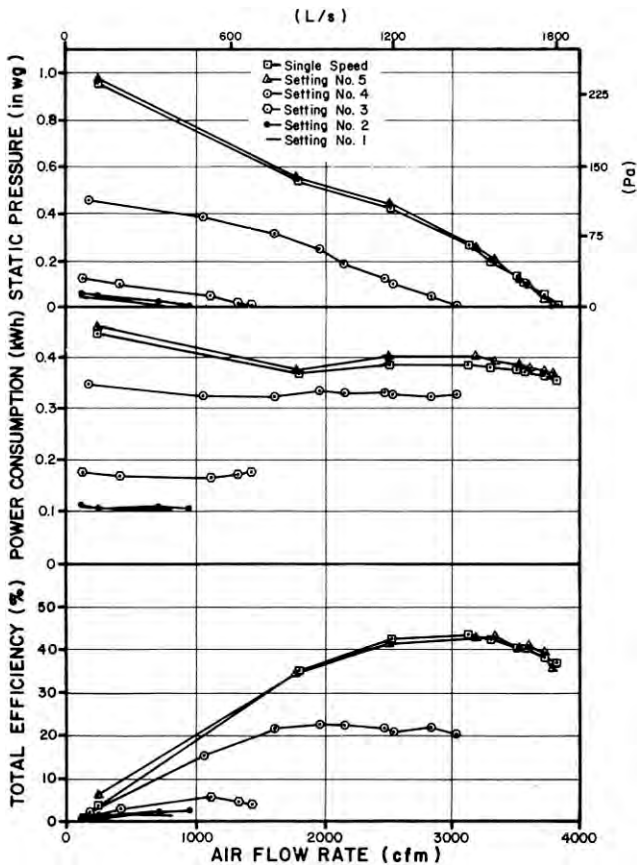

FIGURE 3. Multifan Model 4E45-6PP Fan Performance Curves in the Single Speed Direct Mode and at Five Speed Settings.
**Air Flow Rate:** Fan output in the single speed direct mode and at the number 5 setting on the five speed control were similar (FIGURE 3). Reducing the fan speed, greatly reduced the air flow rate for a given static pressure2. For example, at a static pressure of 0.125 in wg (31.1 Pa), reducing the speed control setting from number 5 to number 4 and number 3 reduced the air flow rate from 3550 cfm (1670 L/s) to 2480 cfm (1170 L/s) to 438 cfm (207 L/s) respectively. Settings number 2 and number 1 were unable to achieve static pressures of 0.125 in wg (31.1 Pa).